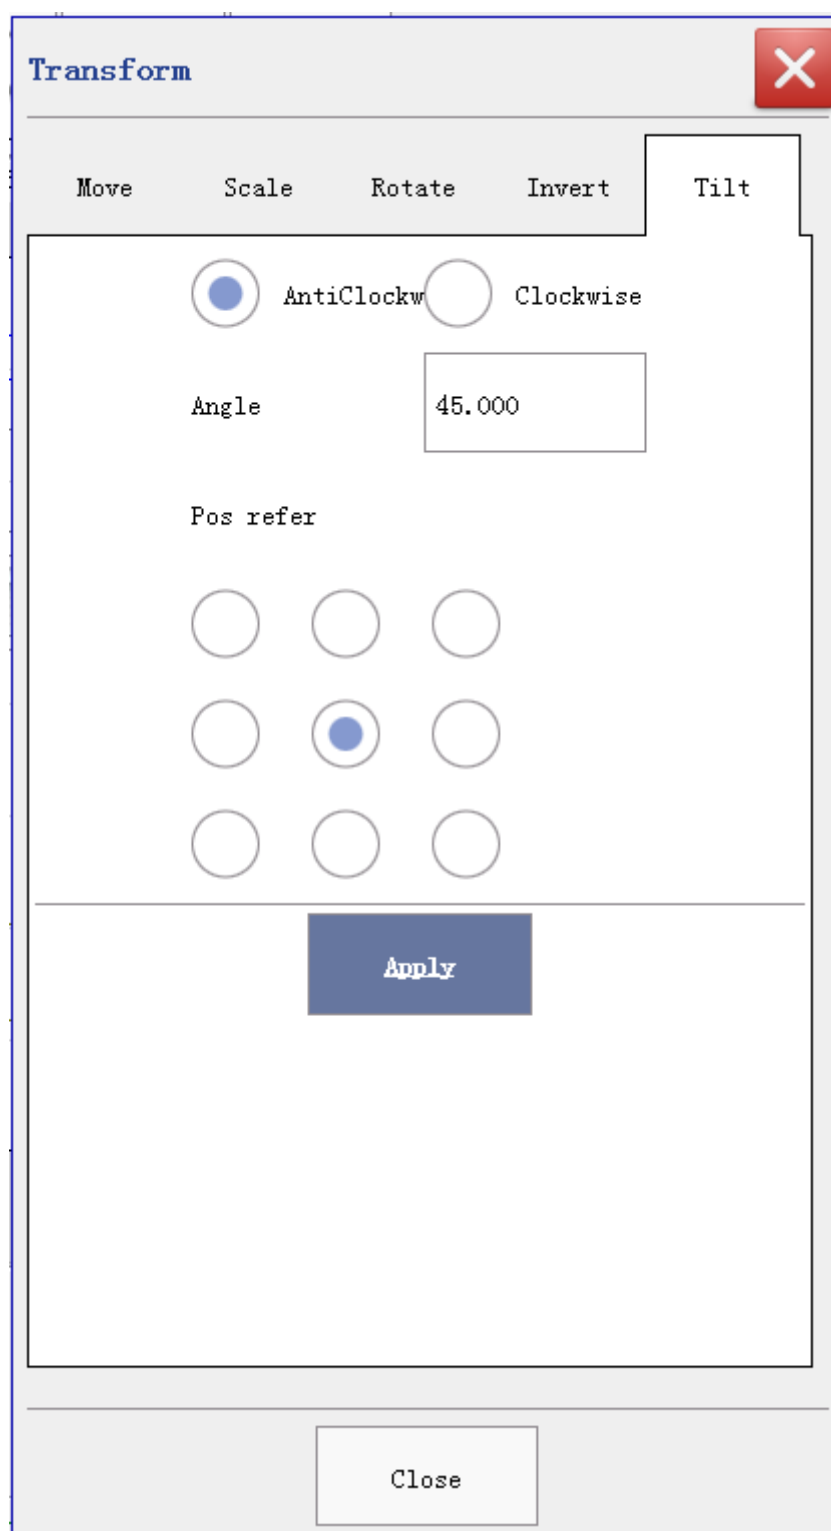

Figure 4-8 Tilt
**Tilt:** Looks like rotate. But tilt angle is inside the mark. And the angle is relative angle. As shown in figure 4-8.